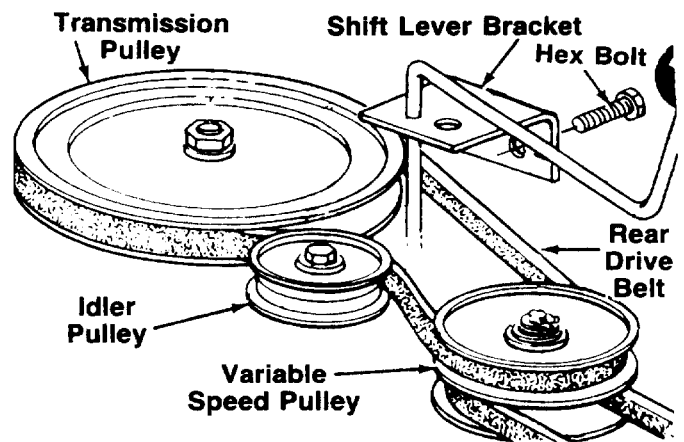

FIGURE 27.
3. Push the idler pulley toward the right side of the unit. Lift the belt over the idler pulley. See figure 27.
5. Remove the two bolts which hold the shift lever bracket to the frame on the left side of the unit. Swing the bracket toward the right so the belt can be removed from the transmission pulley. See figure 27.